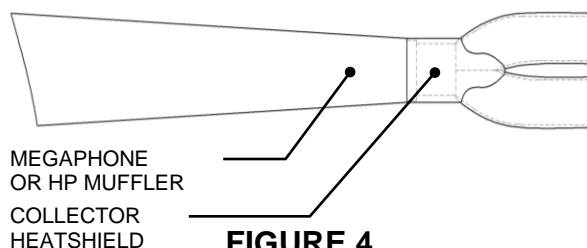

FIGURE 4
11. Place the heatshields on the headpipes and align at collector, (Hint: Spread the hose clamps apart slightly to make it easier to slide them over the muffler assembly and headpipes.) **DO NOT TIGHTEN** at this time. Feed the tail end of the #28 hose clamp through the collector heatshield and snap into place over the megaphone or HP muffler and heatshields, see Figure 4. Tighten all clamps.